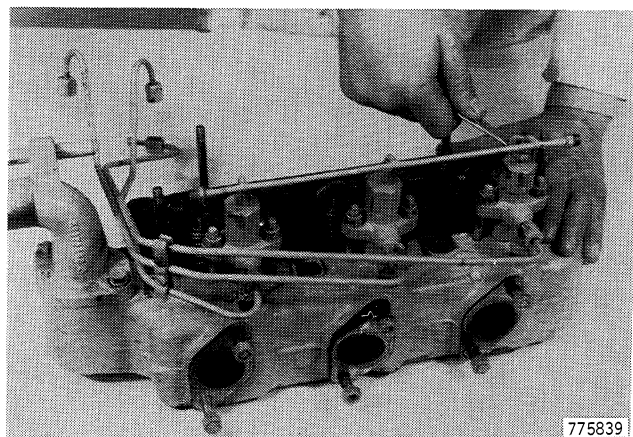

Figure 99
6. Tighten three nuts to secure return tube, Figure 99.